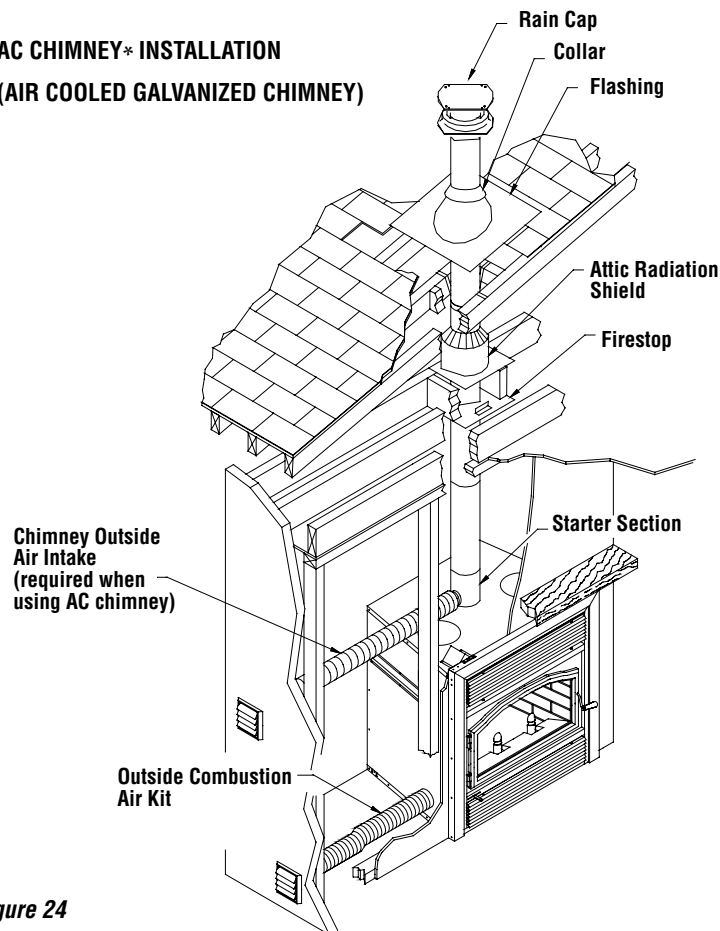

Figure 24
3. For ASHT/HT6103+ AND S2100+/HT6000+ chimneys* place the first chimney length on the fireplace. To lock it in place, turn 1/4 of a turn clockwise. With the AC chimney*, you must use a starter section, **AC6SB*** or **AC6SB30***, before installing the first chimney length (**Figure 24**). Continue installing chimney lengths making sure to lock each length in place.
5. Then, put the roof flashing in place and seal the joint between the roof and the flashing with roofing pitch (see **Figures 24 and 25**). For sloping roofs, place the flashing under the upper and on top of the lower shingles. Nail the flashing to the roof, using roofing nails.